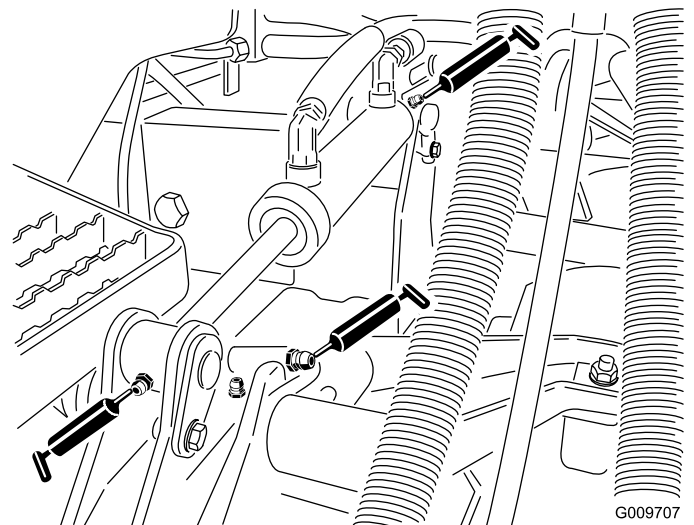

Figure 35
- Lift-arm bushings (1 per deck) as shown in Figure 35
- Lift-cylinder bushings (2 per deck) as shown in Figure 35